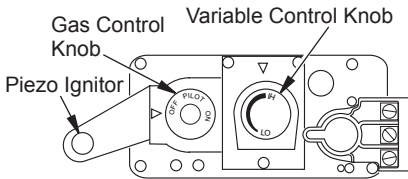

Figure 45 - Control Valve
- Turn gas control knob counterclockwise  to PILOT (see Figure 45)
- Push in gas control knob all the way and hold. Immediately light the pilot by repeatedly depressing the piezo spark ignitor until a flame appears. Continue to hold for about one (1) minute after the pilot is lit. Release gas control knob and it will pop back. Pilot should remain lit. If it goes out, repeat steps 5 through 8.